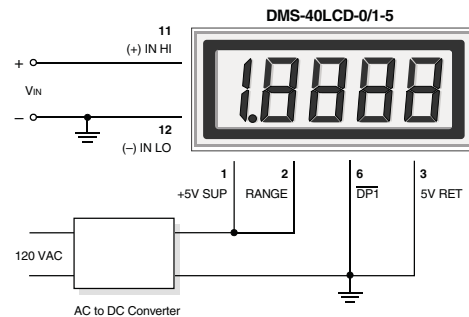

Figure 2. Single-Ended Input Configuration (5V-Powered Models)
1. Single-Ended Input Configurations: True single-ended measurements can only be made with 5V-powered meters. The circuit of Figure 2 avoids problems normally associated with ground loop currents. Separate ground runs should be used for 5V RETURN (pin 3) and (–) INPUT LO (pin 12).